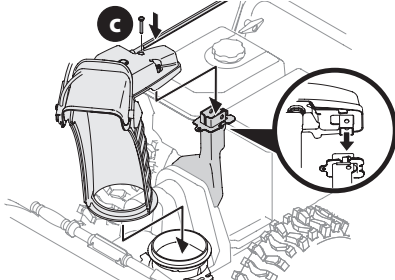

Figure 21
- Place chute assembly onto chute base and ensure chute control rod is positioned above lower handle. Install hex screw (c) removed in Step 1, but do not secure with wing nut (or locknut if equipped) at this time (Figure 21).